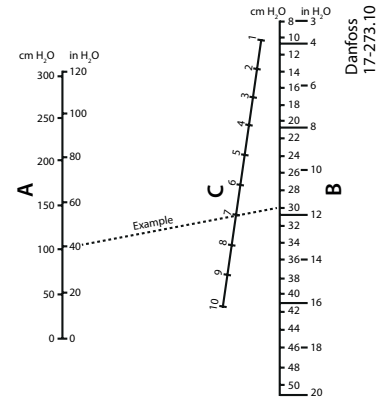

Fig. 3
Setting Fig. 3 A = Range setting B = Differential obtained C = Differential setting
RT 113 is set according to the function – make or brake – which is to take place when the pressure falls (range setting). Setting is done by rotating the knob (5), at the same time reading the main scale (9). The differential is set by rotating the differential adjusting nut (19) to the value indicated by the use of the nomogram in fig. 3. The maximum operating pressure is thus the sum of setting pressure and the differential pressure.
2. Set the pressure switch for 100 cm H₂O by rotating the knob (5).
3. Set the differential adjusting nut (19) at the figure 7 which is found by reading the nomogram in fig. 3.